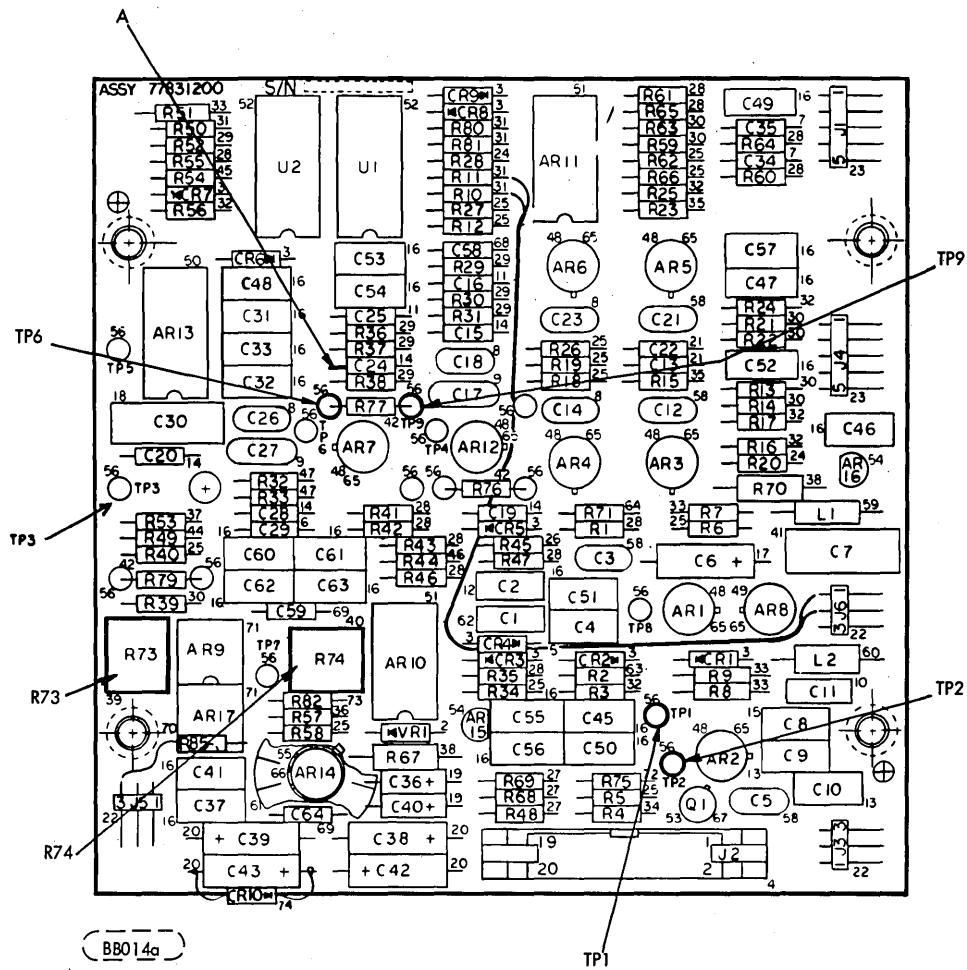
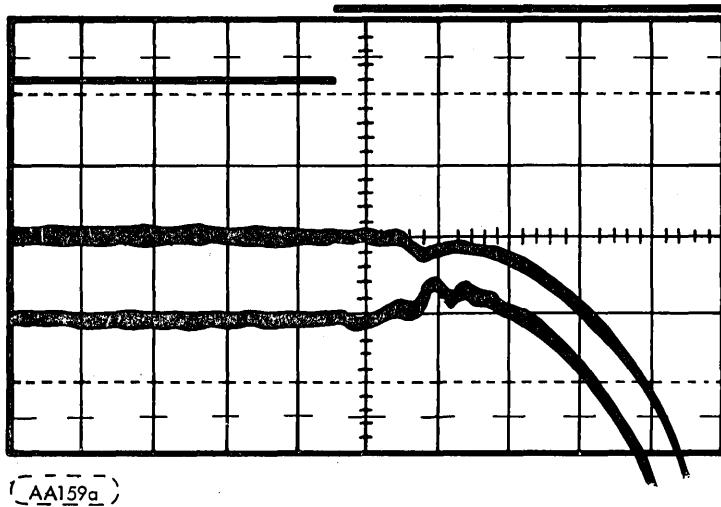
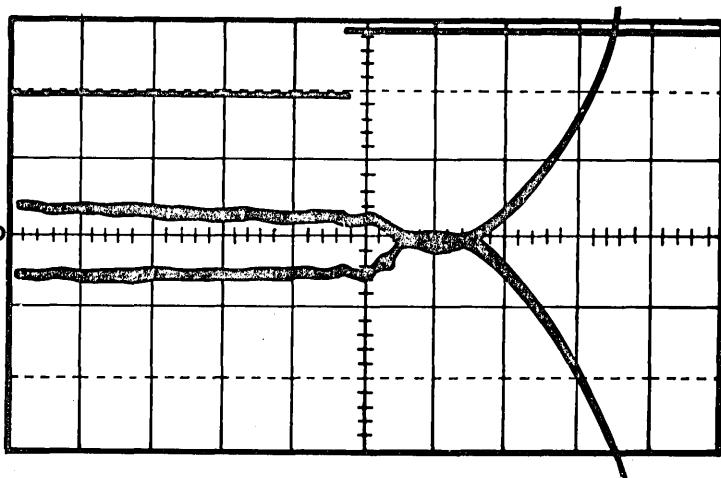

FIGURE LE 3-1. PREAMP BOARD ADJUSTMENT LOCATION
FIGURE LE 3-3. ONE TRACK SEEK UNBALANCED
FIGURE LE 3-5. TWO TRACK SEEK WITHIN TOLERANCE
4. Install a jumper from TP1 to -5V Supply (TP9). See Figure LE 3-1.
5. Connect oscilloscope to C24 (point A of Figure LE 3-1). Set scope for internal trigger and auto sync.
11. Remove jumper from TPI and TP9. (see Figure LE 3-1)
12. Connect oscilloscope to TP3. (see Figure LE 3-1)
20. Monitor "On Cylinder" signal from the Exerciser and adjust velocity gain potentiometer R73 (see Figure LE 3-1) for a seek time of 35 ± 1 milliseconds (see Figure LE 3-3). Adjust sync to get correct waveform.
21. Perform an alternate seek from cylinder 200 to 201 (100 to 101 TIP units). Sync oscilloscope with "On Cylinder" signal on Exerciser. Monitor TP3 and adjust potentiometer R74 on Preamp Board (see Figure LE 3-1) so that the amplitudes are balance (in relationship to each other) within $\pm 100\text{mv}$ logic ground. Figure LE 3-3 shows waveforms unbalanced and Figure LE 3-5 shows them balanced.
24. Verify the adjustment again seeking from cylinder 000 to 002 and 400 to 402 (000 to 002 and 200 to 202 for 100 TPI units). It may be necessary to adjust R74 to bring both locations into adjustment (see Figure LE 3-5).
12. Monitor TP19 on Servo Board with channel A of oscilloscope and sync negative on this signal. Monitor TP3 (Figure LE 3-1) on AGC Preamp Board with channel B of oscilloscope. Place channel B in uncalibrated vertical position and adjust until waveform is five centimeters in amplitude.